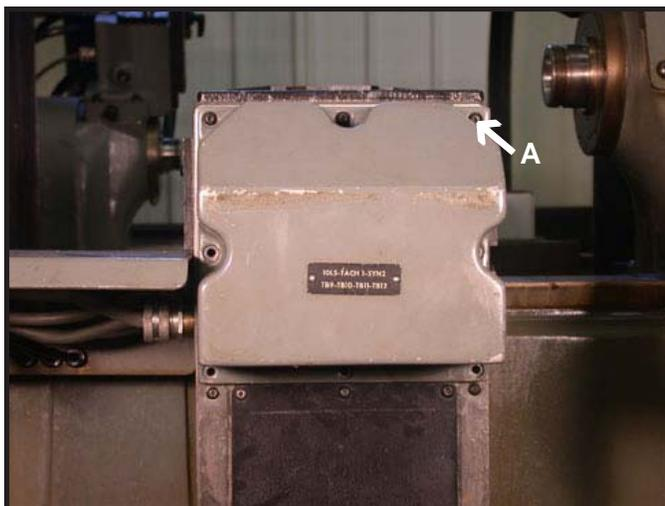

Figure 4.1.2
At the back side of the lathe, remove the (8) SHC screws (Figure 4.1.2 - A) from the cover for the X axis.